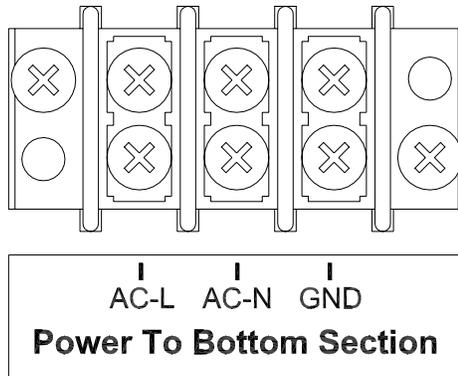

Figure 8 Power to Bottom Section Connections
3. Connect the cable to the terminal block labeled **Power to Bottom Section** according to figure 8.